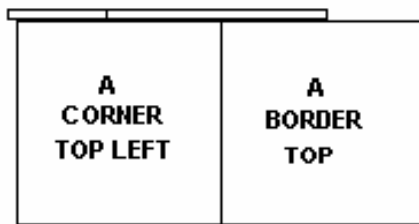

Figure 5
5. Next take a transition and lock the “A CORNER TOP LEFT” and the “A BORDER TOP” panels together. Transitions use the same locking method as panels and lock right to left or up and down. Transitions lock two panels together except for corners. **Each corner will have one short and one tapered transition.** (Figure 5).